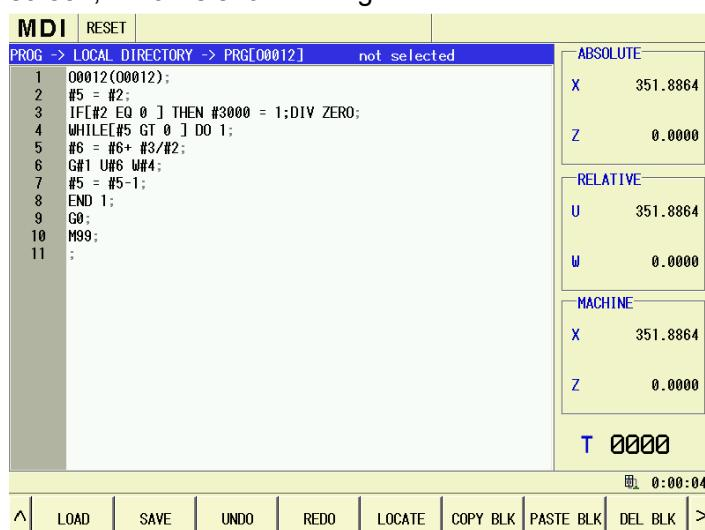

Fig.4-2
(1) Press **PROGRAM** function key and press **LOCAL** software key to enter the program page set.
(2) On the program page set, press to move the cursor to select the program to be opened; or press **SEARCH** software key to search, input the program name to be opened, and press **OK** software key to be searched, and move the cursor to position the program name; the background of the selected program name is changed into green;
(3) Press **OPEN** software key and the program code of the selected program can be opened in the screen, which is shown in Fig.4-2.